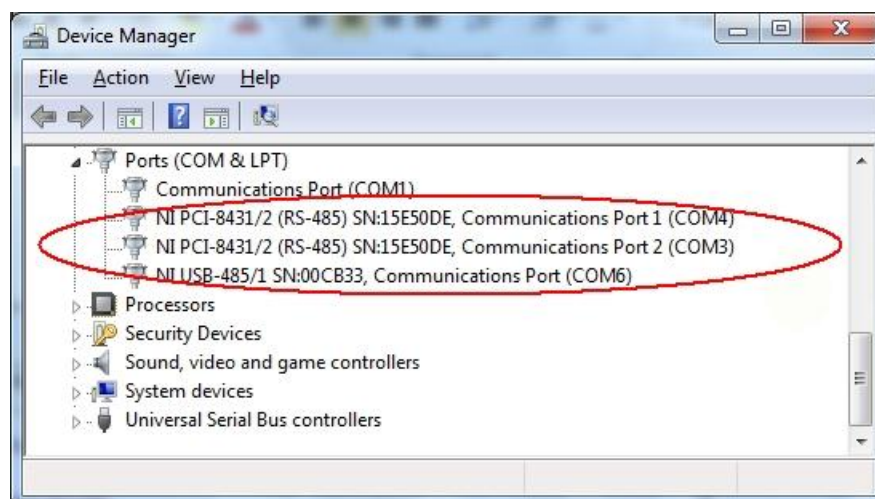

Figure 10: COM port assignments for PCI card and USB cable in Windows 7
4. Verify that the NI serial driver installation has completed successfully in the Device Manager. See *Control Panel -> Hardware and Sound*, or similar path, to locate this. An example for Device Manager in Windows 7 is shown in Figure 10